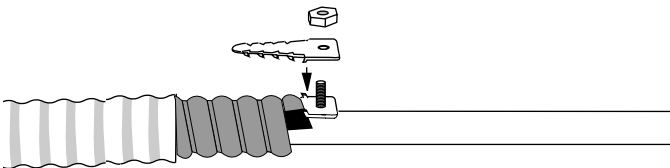

Figure 10
- c. If necessary, slit the outer sheath to accommodate the top plate. Place the top plate over the base plate and tighten it down with its lock nut (Figure 10). A few light taps on the top plate may help seat the teeth of the clamp.